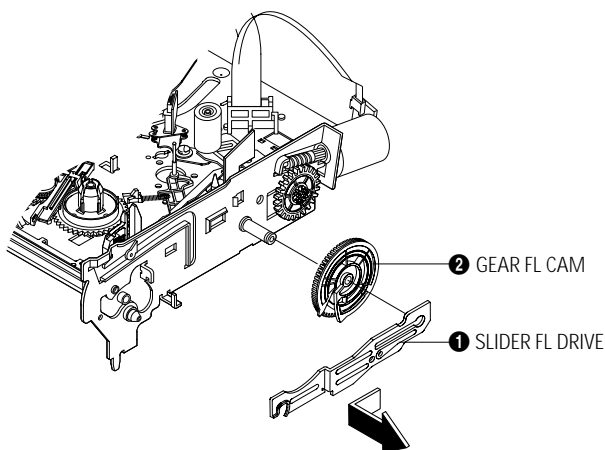

Fig. 4-10 Slider FL Drive Removal
- 1) Pull the Slider FL Drive ❶ to the front direction.
- 2) Remove the Slider FL Drive ❶ in the direction of arrow. (Refer to Fig. 4-10)
- 3) Remove the Gear FL cam ❷.
**Note :** When reinstalling be sure to reassemble Slider FL drive ❶ after you insert the Boss of Lever FL ARM-R in Groove of Slider Fl drive ❶.
**Assembly :** Align the Gear FL Cam ❶ with the Gear worm wheel Post as shown drawing. (Refer to Timing point)